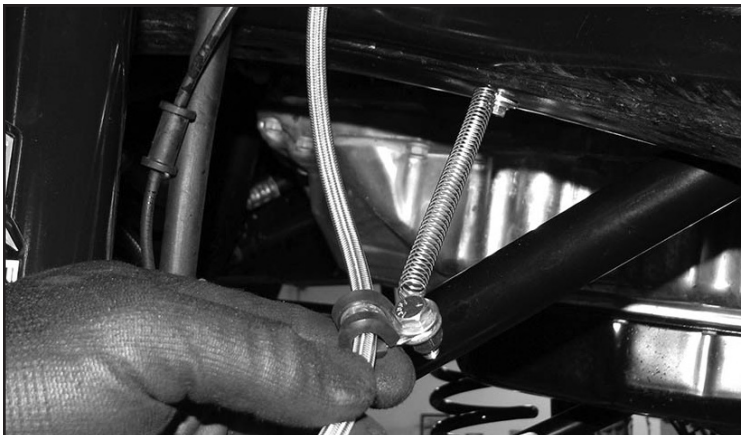

FIGURE 24 - STEP 6
6. Mount the opposite end of the spring to the frame using the supplied TEK screw and washer. **SEE FIGURE 24**